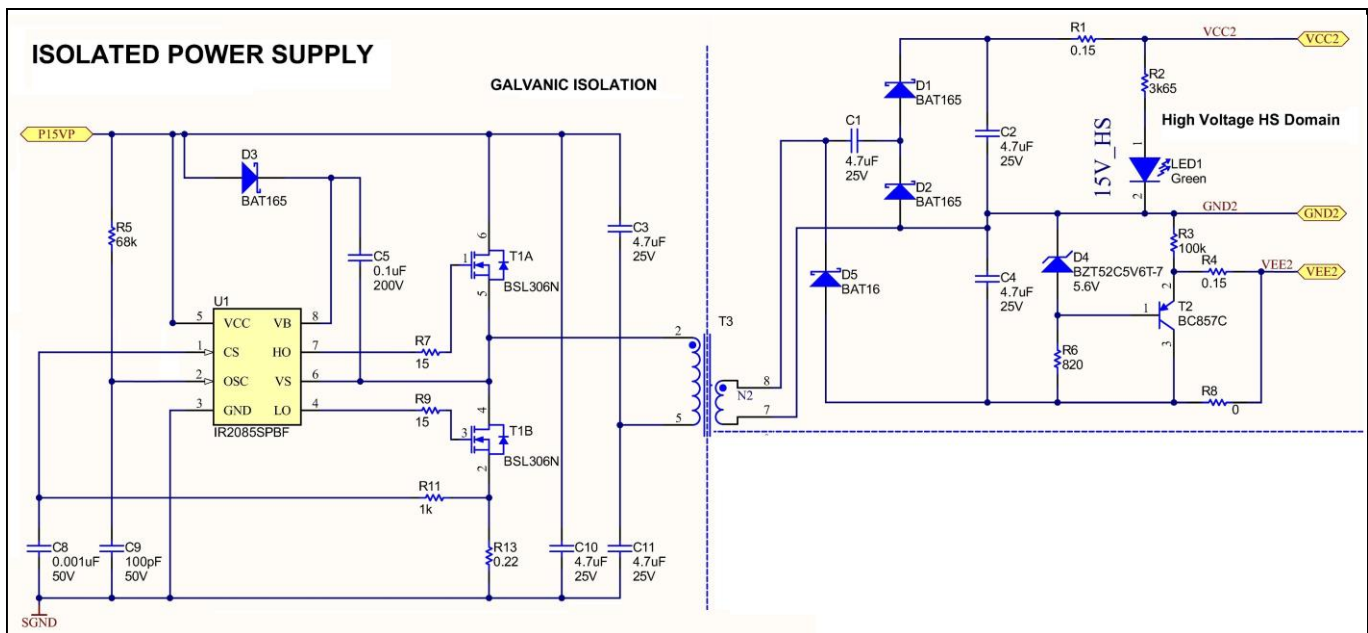

Figure 7 Section of drawing with IR2085S to explain main functionality
The main function of the power supply board is based on the half-bridge gate driver IC IR2085S. It is a self-oscillating half-bridge gate driver IC with 50% duty cycle ideally suited for half-bridge DC-bus converters. This product is also suitable for push-pull converters without restriction on input voltage. Each channel frequency is equal to f_{osc} , which can be set by selecting RT & CT (represented by R5 and C9 in drawing in Figure 7), where $f_{osc} = 1/(2 \cdot RT \cdot CT)$, where the frequency is in Hertz (Hz), RT resistance in Ohms (Ω) and CT capacitance in Farads (F). The recommended range of timing resistors is between 10 k Ω and 100 k Ω and the range of time capacitances is between 47 pF and 470 pF. Timing resistors with less than 10 k Ω should be avoided. The value of the timing capacitor determines the amount of dead time between the two output drivers: the lower the CT, the shorter the dead time and vice versa. It is not recommended to use a timing capacitor below 47 pF. For best performance keep the timing components physically as close as possible to the IR2085S. Dead-time can be controlled through the proper selection of CT, and can range from 50 ns to 200 ns. An internal soft-start increases the pulse width during power-up and maintains pulse width matching for the high and low outputs
throughout the start-up cycle. The IR2085S initiates a soft start at power-up and after every overcurrent condition. Undervoltage lockout prevents operation if VCC is less than 7.5 V. Figure 7 shows a section of a circuit to explain the main functionality.
The voltage doubler was built using the components D1, D2 and C1 corresponding to Figure 7. The circuit with the Zener-diode (D4) and transistor T2 was therefore inserted in order to easily adapt the negative gate voltage to the needs of the corresponding power switches.